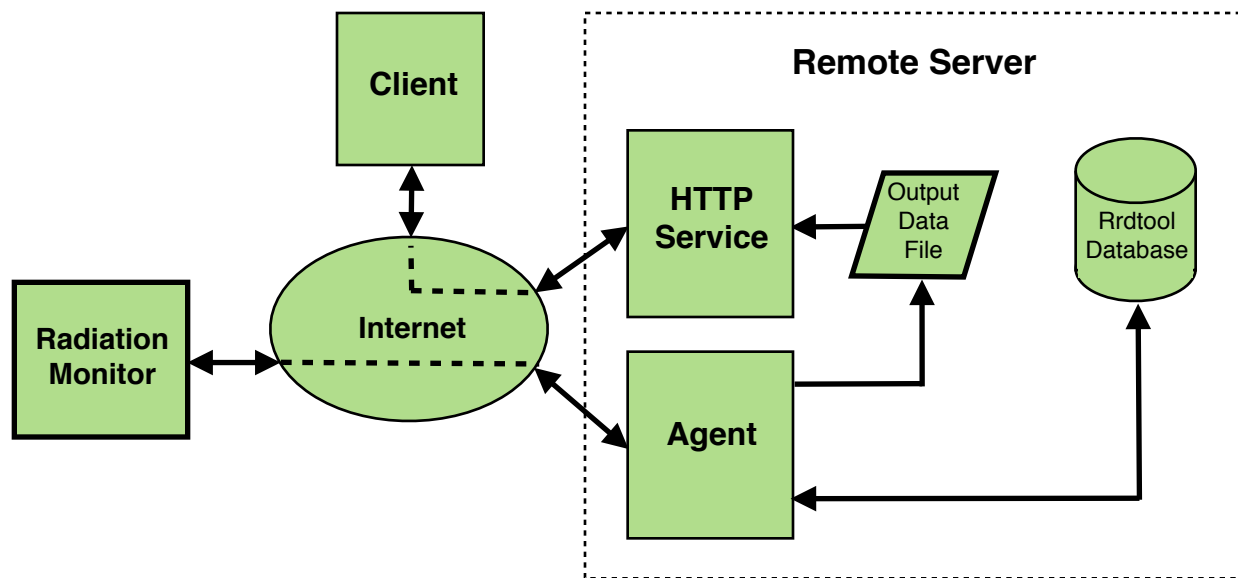

Figure 4. Block diagram of server software components showing data i/o, agent process, HTTP service, and database elements.
Referring to figure 4, the server components consist essentially of two pieces: an HTTP server component and an agent component. The HTTP server component includes HTML documents, with embedded Java script, for displaying the radiation monitor data in a web browser. The agent, a Python script, manages data conversion and reformatting, updating a database, and generating graphical charts. Events flow in the following manner. The agent periodically makes an HTTP request of the radiation monitor. The radiation monitor responds with a single string containing the data. Below is a typical example of a data string received from the radiation monitor.
The agent parses this string, writes the data to a rrdtool database, and writes the data to the “Output Data File” for use by HTML documents. When a client requests a radiation monitor HTML document, Java script embedded in the document reads the output data file and displays this data in an HTML document. Although not shown in figure 4, the agent, as mentioned earlier, generates graphic charts for display in HTML documents. The graphic charts are stored as image files which Java script in the HTML documents can display in the radiation monitor web page.
3. The output data file (see figure 4) gets overwritten every 10 seconds and should not be stored on disk. Rather it is dynamic content that should be stored in the temporary file system resident in ram. Similarly the graphic image files get overwritten frequently and should also be stored in the temporary file system. Assure that the server /tmp folder gets mounted to the temporary file system. This can be done by adding the following line to the /etc/fstab file